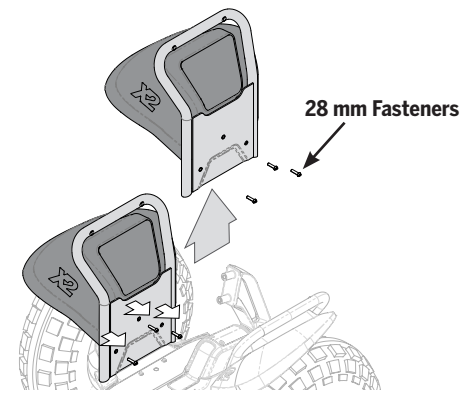

Figure 3. Remove x2 SE Fender Frame
2. Remove the three 28 mm fasteners using a 4 mm hex wrench and put them in a safe place (see **Figure 3**).